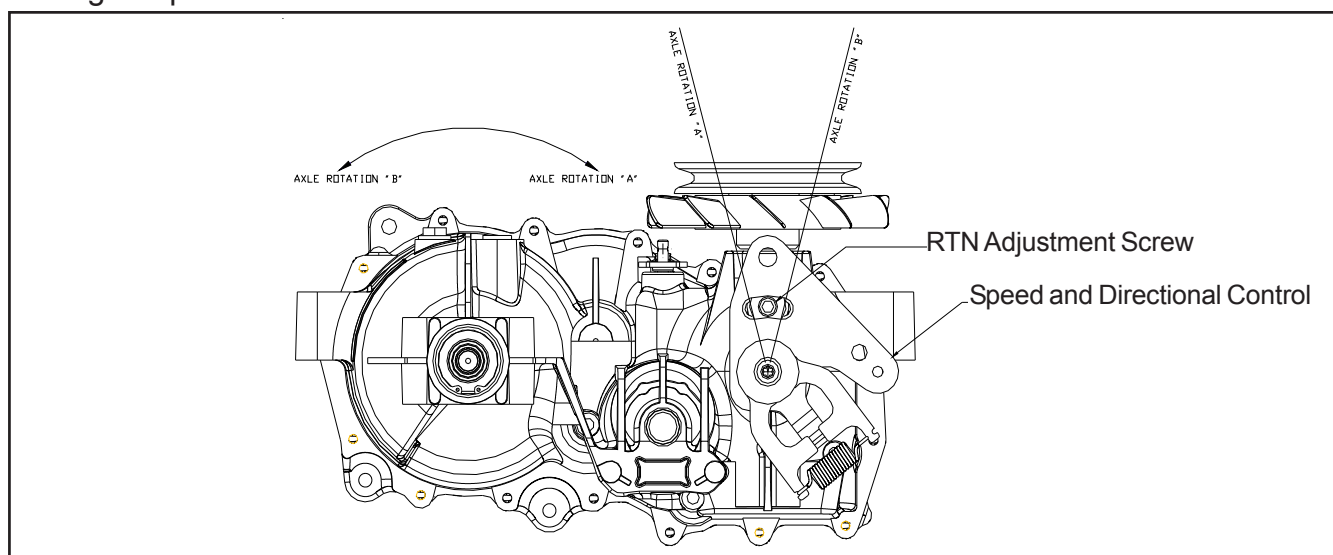

Figure 5. Return to Neutral Setting (Model 618-04163)
2. Remove the Original Equipment Manufacturer's (OEM's) control linkage at the control arm. Refer to Figure 5.
5. Stop the vehicle's engine. Reattach and adjust the OEM linkage according to Step 3 and Step 4. Stop the vehicle engine. Refer to Figure 5.
6. Note the axle directional movement. Stop the vehicle engine. Loosen the RTN adjustment screw until the control arm can be rotated. Rotate the control arm in the opposite direction of the wheel rotation in 5 degree increments. Tighten the RTN adjustment screw. Refer to table 6. Required Torque values, page 14. Recheck according to steps 3 and 4. Stop the vehicle engine. Reattach and adjust the OEM linkage according to the OEM manual. Recheck according to steps 3 and 4. Refer to Figure 5.